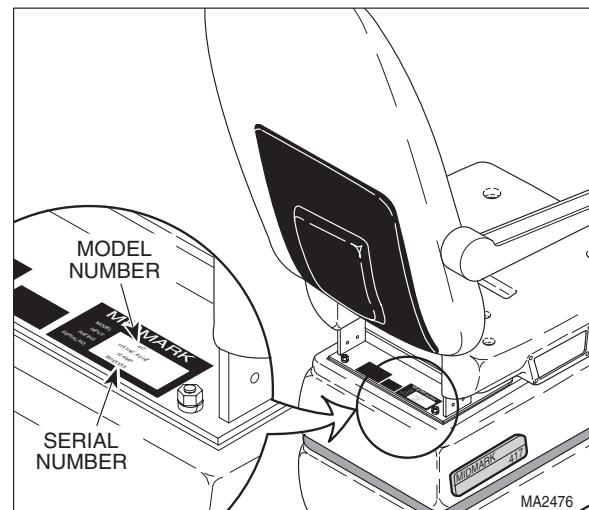

Figure 1-2. Model Number / Serial Number Location
- (1) Refer to Figure 1-2 to determine the location of the model number and serial number of the chair and record this data.
- (2) Refer to the Parts List to determine the item numbers of the parts, part numbers of the parts, descriptions of the parts, and quantities of parts needed and record this data (Refer to para 6.1).